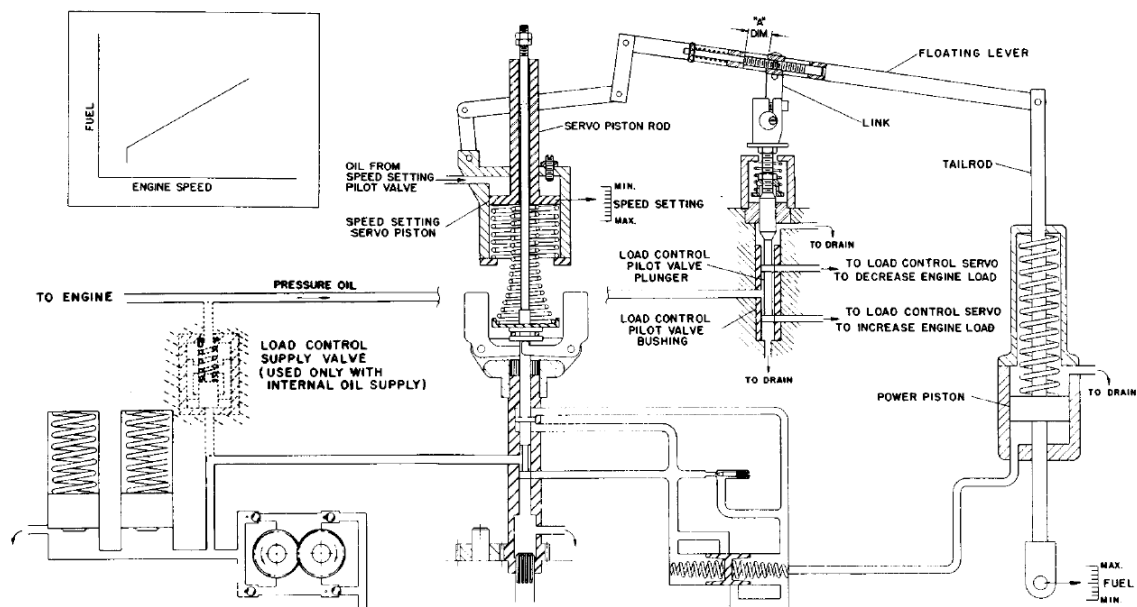

Figure 1. Schematic of Basic Load Control System
A simplified schematic of the basic load control system is shown in Figure 1. The speed setting servo piston position determines the loading on the speeder spring and hence the governor speed setting. The governor ballhead compares the actual governor speed (proportional to engine speed) with the established speed setting. If they are not equal, the governor pilot valve plunger is moved from its central position to initiate a repositioning of the governor power piston to which the engine fuel linkage is connected. If the engine speed is slower than desired, the power piston moves up to increase fuel; if the engine speed is faster than desired, the power piston moves down to decrease fuel.
A typical fuel versus engine speed curve is shown in the inset of Figure 1. The slope of the curve is determined by the point along the floating lever at which the load control pilot valve link is connected. The load control system will maintain this fuel versus speed relationship throughout the entire speed range except momentarily during transient conditions.
1. Use adjusting screw knob (47) in floating lever to set “A” dimension to 1/2 inch.
2. Loosen lock screw (35) and position eccentric (37) so that screwdriver slot is horizontal and on the side furthest from the adjusting screw knob (as shown in Figure 1).
4. If the load control servo indicator (or pitch indicator of marine units) is now at either “Maximum Field” or “Minimum Field” (minimum or maximum pitch on marine units), the load control pilot valve plunger (64) is not “centered”—the control lands do not exactly cover the ports in the bushing (66).
1. Use adjusting screw knob (47) in floating lever linkage to set "A" dimension to 1/2 inch (12.7 mm).
2. Loosen the lock screw (35) and position the eccentric so that the screwdriver slot is horizontal and on the side furthest from the adjusting screw knob (as shown in Figure 1).